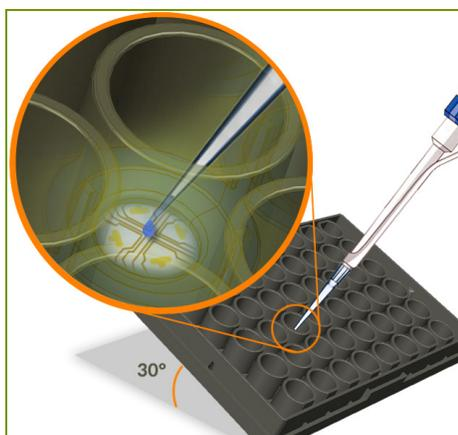

Figure 1: Droplet Placement
2. Tilt the MEA plate at an angle so that the bottom of each well is visible. Dispense an 8 µl/well droplet of fibronectin over the recording electrode area of the well of the MEA plate (Figure 1).
- Dispense an 8 μl /well droplet of iCell Cardiomyocytes cell suspension (approximately 16,000 plated cardiomyocytes) over the recording electrode area of the MEA plate (Figure 1).
- Tilt the MEA plate at 30 degrees (Figure 1). Gently add 150 μl /well of Plating Medium down the side of the well of the MEA plate one row at a time using the 12-channel pipettor. Adding the medium too quickly will dislodge the adhered cardiomyocytes.